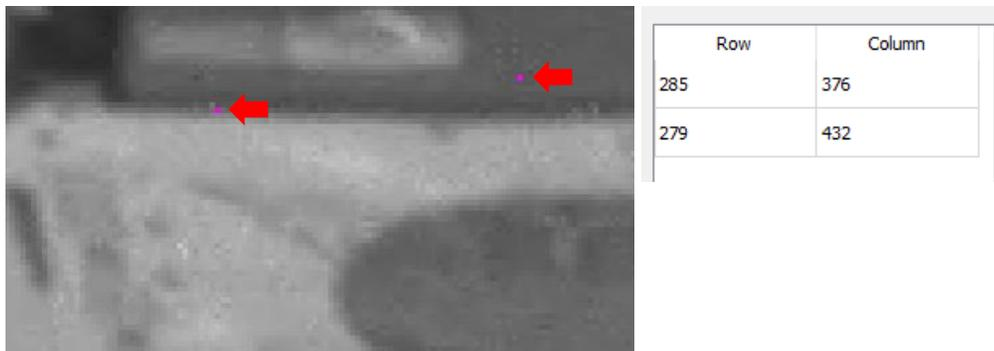

Figure 12: Example - Locating Dead Pixels
- Locate and click on a dead pixel. Use the *Zoom* and *Pan/Tilt* buttons in the *Video* tab to help click on them. After clicking on a pixel, it will turn to a magenta color and a row will be added to the table to the right showing the *Row* and *Column* of the pixel (Figure 12).